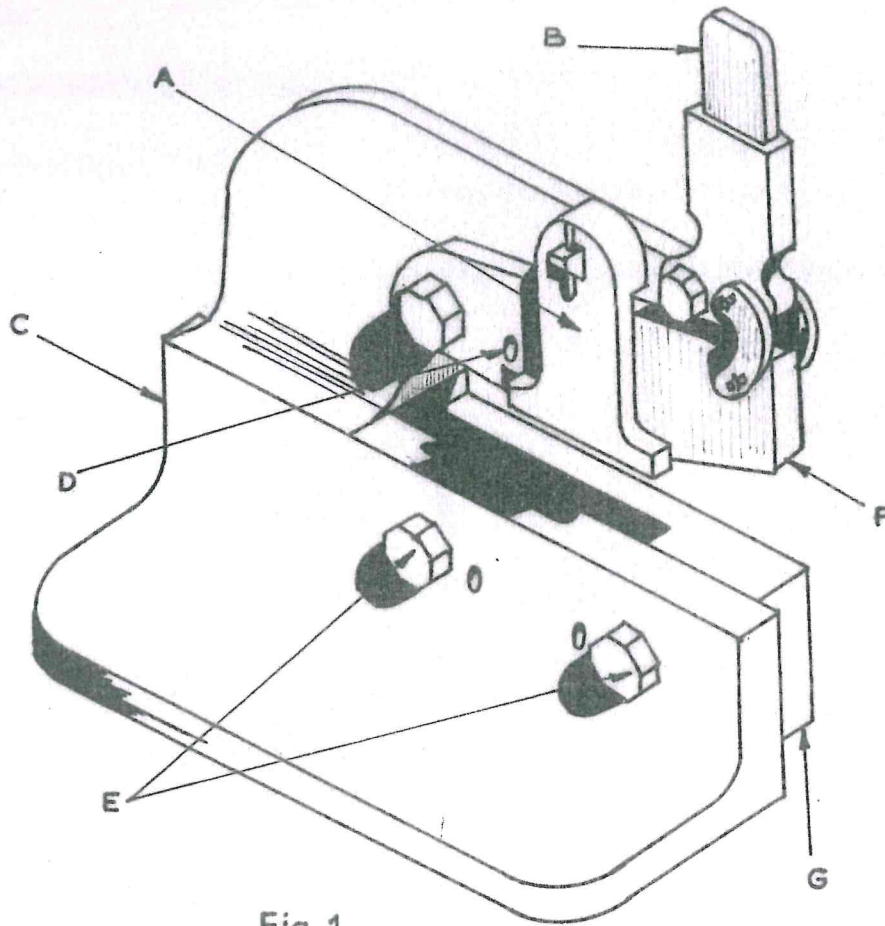

Fig.1
4. (a) Figure 1 shows a bench shear.